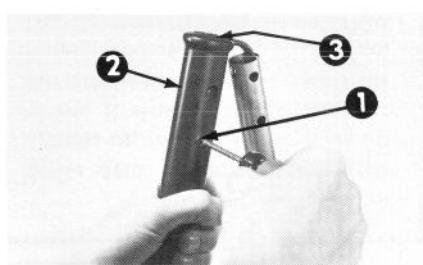

Figure 2
3. Remove the handlescrews and plastic handle nuts from the center handle grip (Fig. 2).